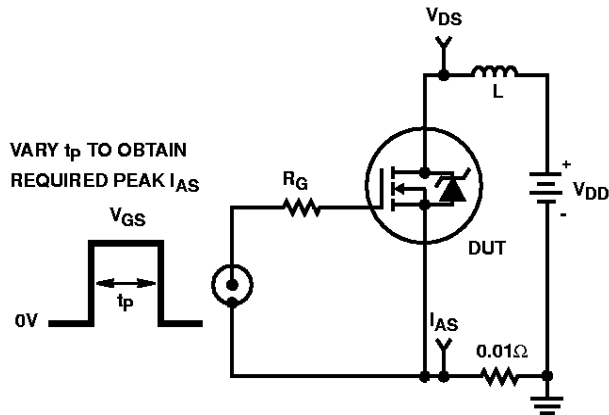

FIGURE 15. UNCLAMPED ENERGY TEST CIRCUIT
4.  $V_{DD} = 10\text{V}$ , starting  $T_J = 25^\circ\text{C}$ ,  $L = 170\mu\text{H}$ ,  $R_G = 50\Omega$ , Peak  $I_{AS} = 40\text{A}$ . See Figures 15, 16.